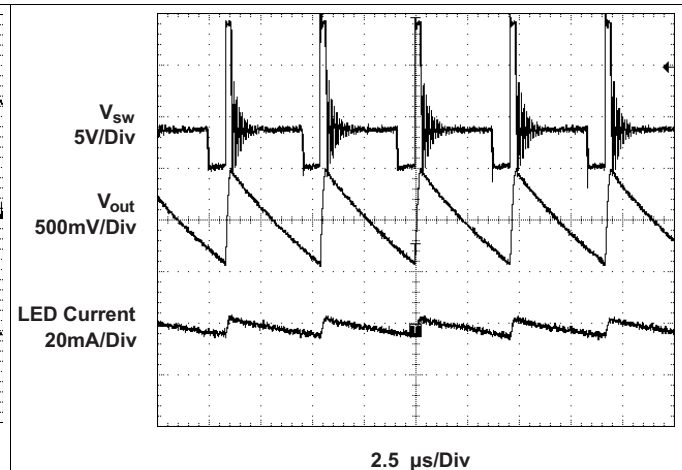
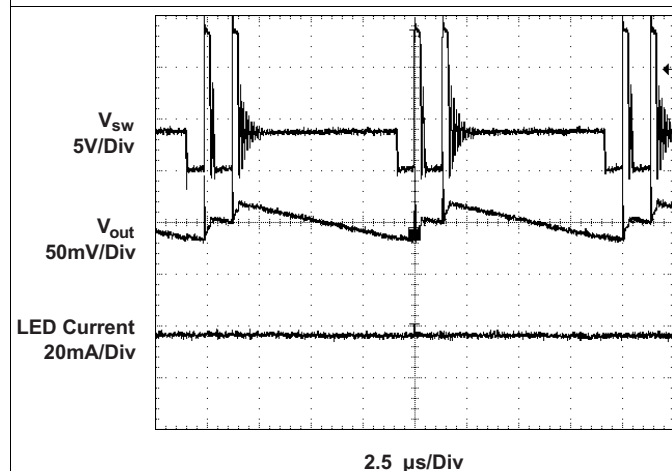

Figure 24. PFM Operation
Figure 25. Bust Mode Operation
If the converter can support the desired LED current, the next step is to calculate the converter switching frequency at the operation point, which must be  $\leq 1$  MHz. Also the converter switching frequency should be much higher than the applied PWM frequency at the CTRL pin to avoid non-linear brightness control. Assuming the converter shows no double pulses or pulse bursts (Figure 24, Figure 25) on the switch node (SW) the switching frequency at the operation point can be calculated as:
Assuming the converter does not show double pulses or pulse bursts on the switch node (SW), the output voltage ripple is calculated as (see Figure 24, Figure 25):